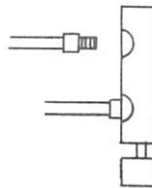

Fig. 11.4
11.3.1 Apply small quantity of turbine oil to the air inlet of slim cylinders installed to the machine head and work holder once every 6 months (Fig. 11.4).